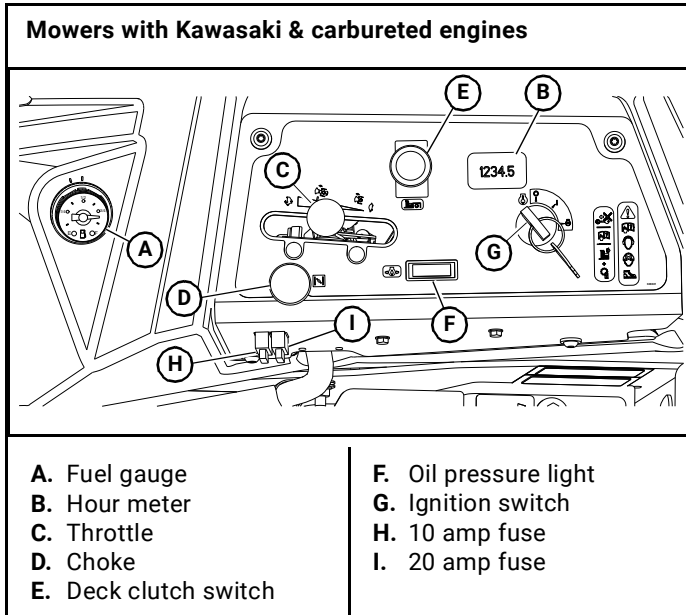
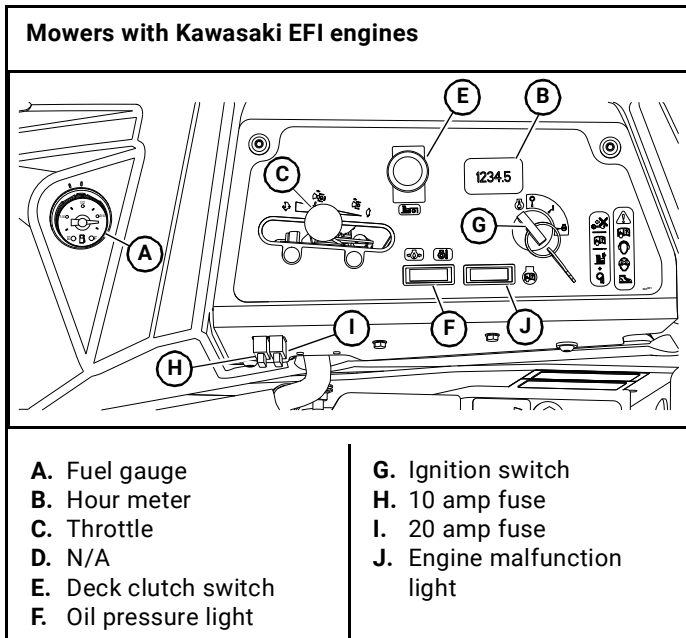
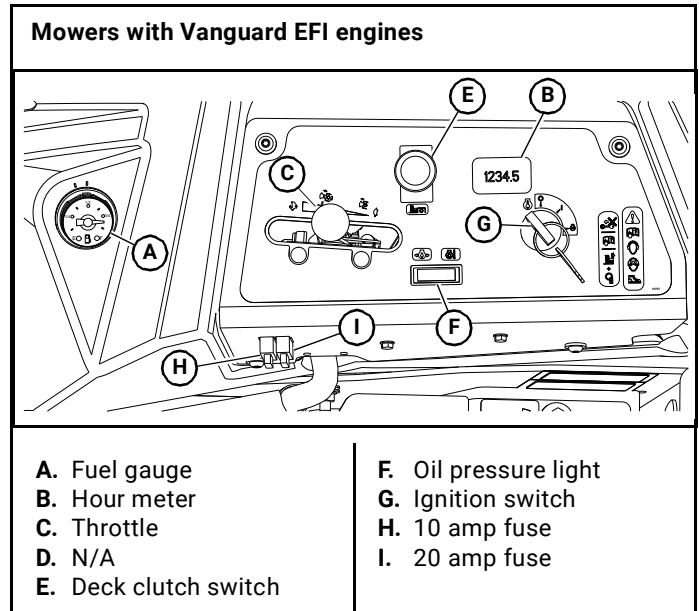

Figure 3-1
Figure 3-2
Figure 3-3
- A. Fuel tank gauge (Figure 3-1, Figure 3-2 & Figure 3-3)** – this gauge shows the fuel level for each fuel tank. There is one on each tank.
- B. Electronic hour meter (Figure 3-1, Figure 3-2 & Figure 3-3)** – registers 1/10 hour increments up to 9,999.9 total hours. It is connected to the ignition switch. It records the accumulative time while the ignition key is switched to the “RUN” position.
- C. Throttle control (Figure 3-1, Figure 3-2 & Figure 3-3)** – a cable is linked to the engine throttle for controlling engine speed. Move the lever forward to increase engine rpm, move the lever rearward to decrease engine rpm.
- D. Choke control (Figure 3-1)** – a cable is linked to manually operate the engine choke. When the lever is in the down position, the choke is in the “OFF” (run) position. When the knob is pulled up, the choke is in the “ON” (start) position. Do not operate the machine in the “ON” (start) position.
- E. Deck clutch switch (Figure 3-1, Figure 3-2 & Figure 3-3)** – this switch engages the deck. Pull the switch up to engage and push switch down to disengage the clutch. For additional clutch information refer to the *Mower Deck Operation* section of this manual.
- F. Oil pressure light (Figure 3-1, Figure 3-2 & Figure 3-3)** – this light comes on when the ignition switch is placed in the “RUN” position and stays lit until the engine is running and a safe oil pressure is developed. If the light comes on during operation, shut the engine off immediately and locate and correct the problem.
- G. **Ignition switch (Figure 3-1, Figure 3-2 & Figure 3-3)** – a three position switch: “OFF”, “RUN”, and “START”. With key inserted, rotate it clockwise to the “START” position; release the key when the engine starts, and the switch will automatically return to the “RUN” position.
- H. **10 amp fuse (Figure 3-1, Figure 3-2 & Figure 3-3)** – Ignition system & Safety system - 10 amp, blade-type.
- I. **20 amp fuse (Figure 3-1, Figure 3-2 & Figure 3-3)** – Controller - 20 amp, blade-type.
- J. **Engine malfunction light (Figure 3-2)** – this light comes on when there has been an engine malfunction on mowers with electronic fuel injected engines. Refer to the engine owner’s manual for more details.